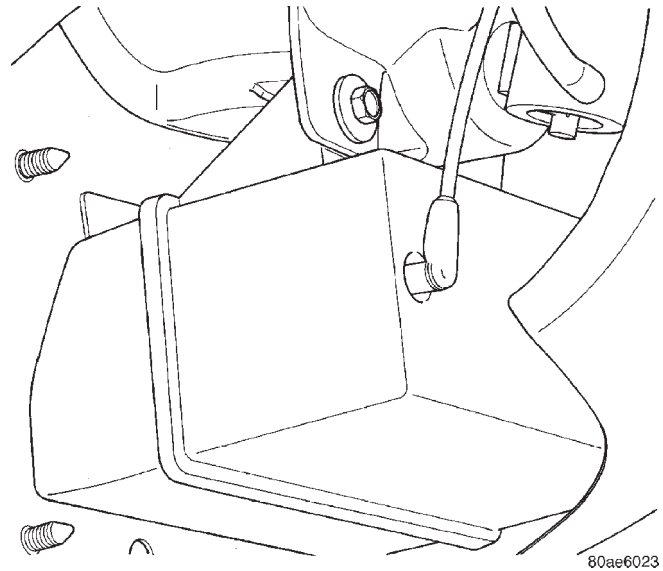

Fig. 5 Vacuum Reservoir
- (1) Raise and support vehicle.
- (2) Remove screws on top of vacuum reservoir.
- (3) Remove vacuum hose.
- (4) Remove vacuum reservoir (Fig. 5).